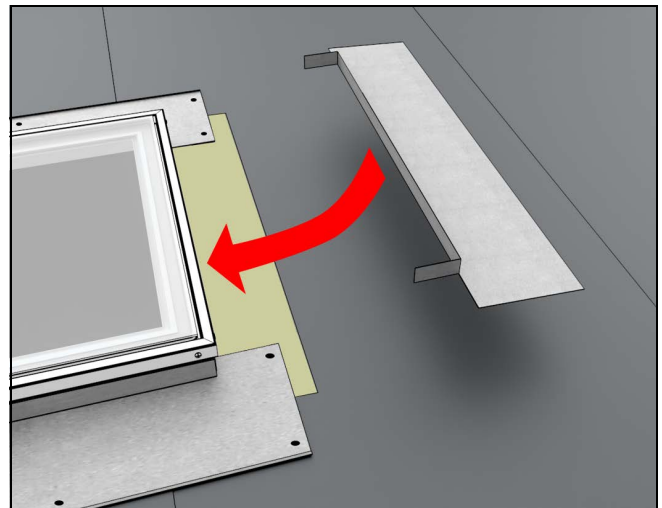
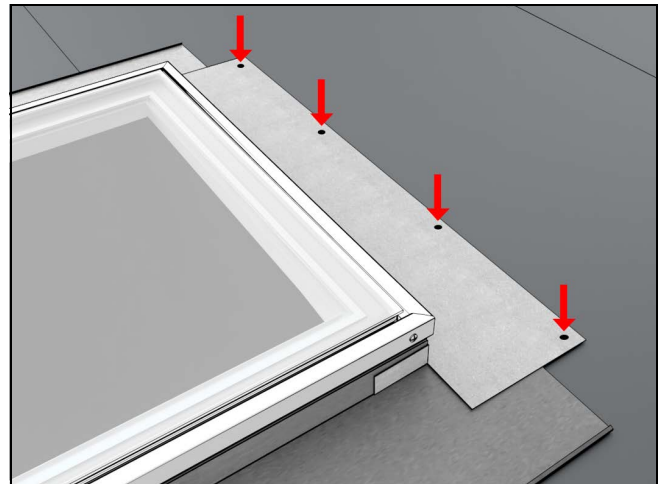

Figure 54
Figure 55
**4.** Center head jamb saddle and bend tabs over, press firmly to deck and unit. See Figure 54. Attach using roofing nail. *Note: No fasteners within 4" of unit.* See Figure 55.